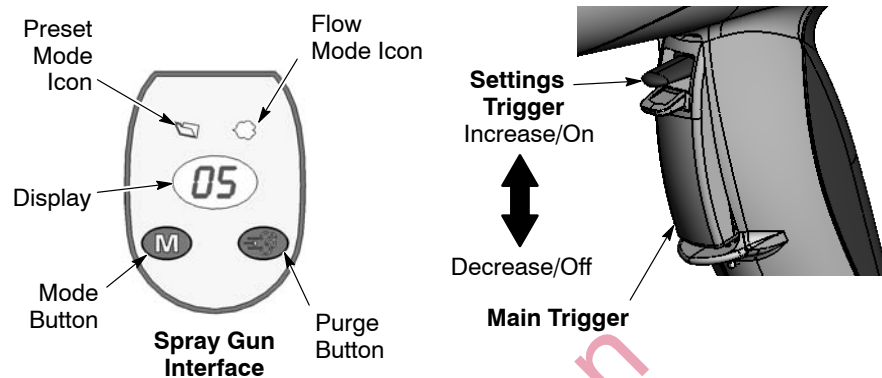

Figure 3-2 Gun Controls
1. See Figure 3-2. Release the main trigger. Presets cannot be changed while the gun is triggered on.
1. See Figure 3-2. Press the **Mode** button until the **Flow Mode** icon is lit.
1. See Figure 3-2. Point the gun into the booth and release the main trigger.